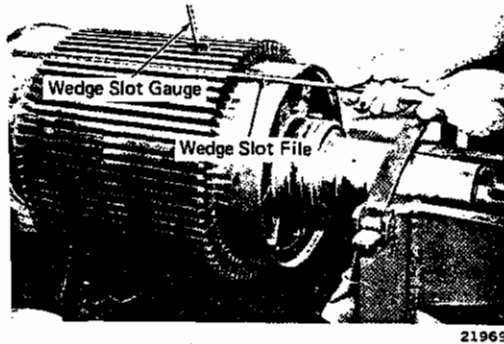

Fig. 5 - Filing Slot Wedges
3. Check all slot wedge grooves with wedge slot gauge, Fig. 5. The gauge is to fit-slot wedge groove with a slight "feel" and should be neither loose nor tight. If gauge will not fit properly, use wedge slot file to clean out slot as shown in Fig. 5. Refer to Service Data for gauge and file part numbers.